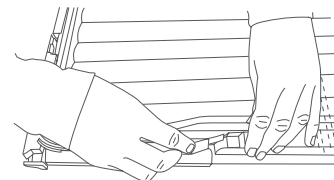

Fig.26 Fit lid under side retainers
- 4 Once you have finished cleaning the shelf and lid, position lid back in place by fitting the lid under the side retainers (refer to Fig.26).